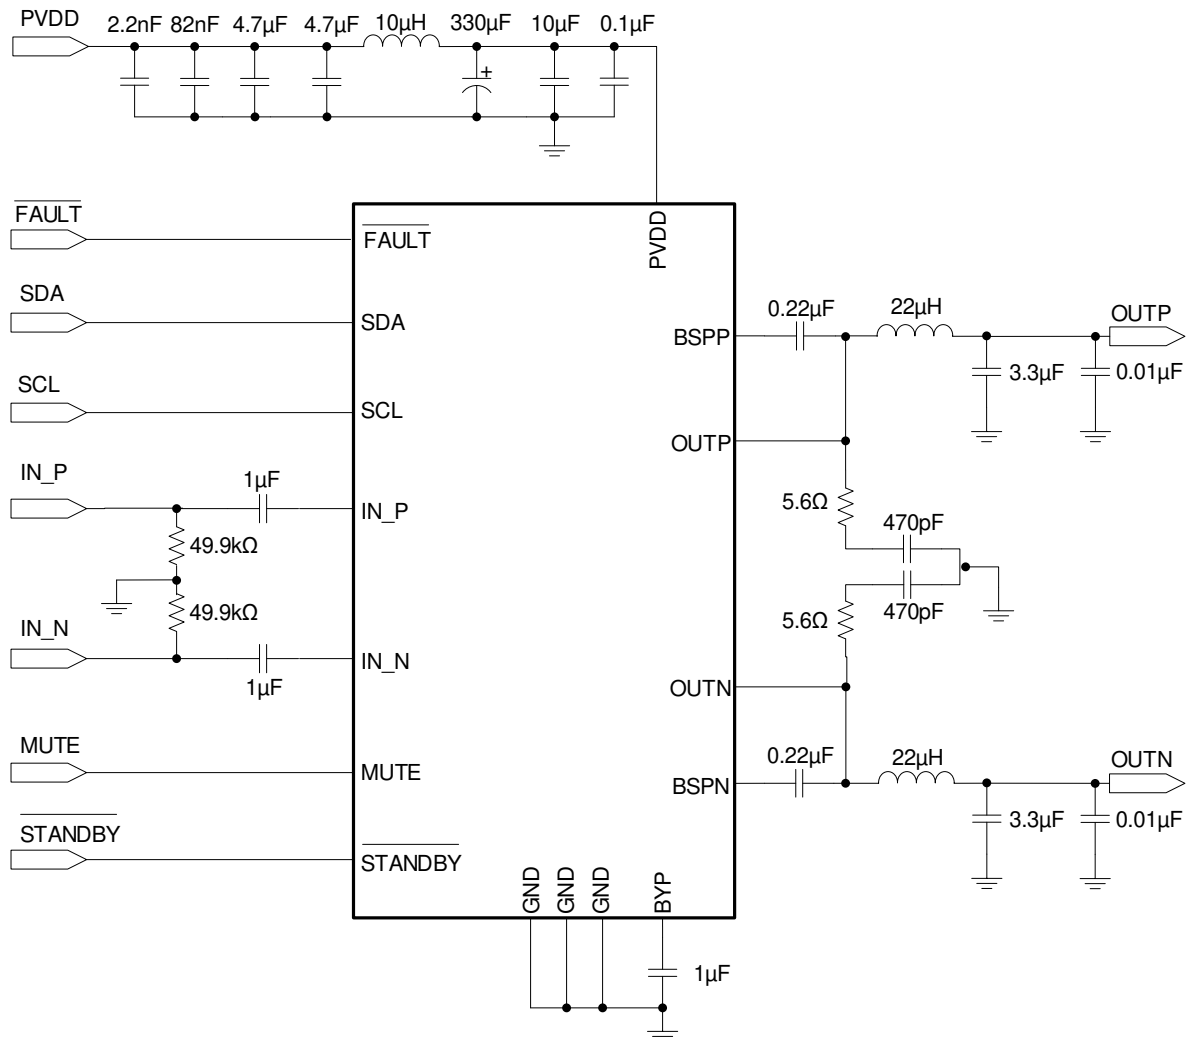

图 8-1. TAS5441-Q1 Typical Application Schematic
The output stage uses dual NMOS transistors; therefore, the circuit requires bootstrap capacitors for the high side of each output to turn on correctly. The required capacitor connection is from BSTN to OUTN and from BSTP to OUTP as shown in 图 8-1.
- Step 1: Hardware Schematic Design: Using the 图 8-1 as a guide, integrate the hardware into the system schematic.